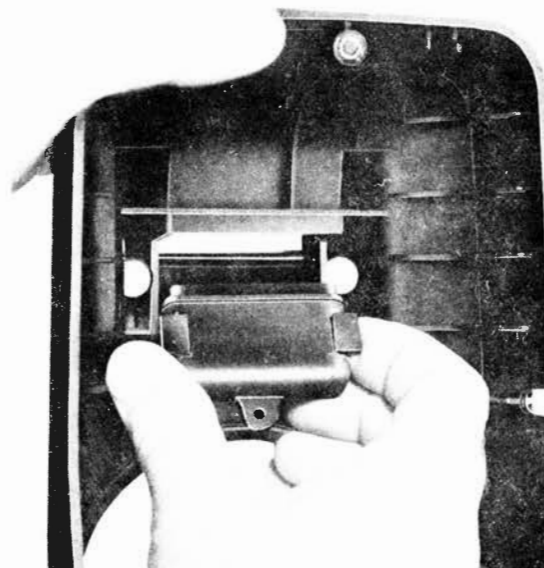

Fig. 23 — Handhole Cover
4.03 Plungers in desk-type sets are accessible by removing the handhole cover mounting screw and the handhole cover (see Fig. 23).